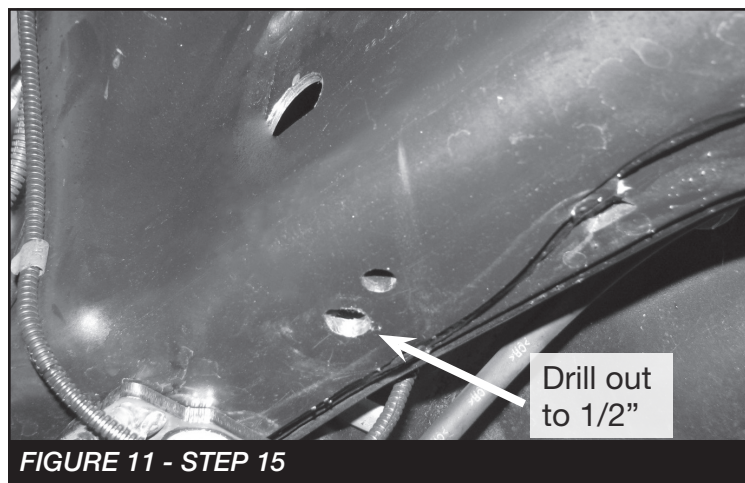

**FIGURE 8 - STEP 13**
13. Install FT30654 (Bump Stop Extension) onto the factory cup using the supplied 1/2" x 1-1/4" hardware and set aside. Torque to 127 ft-lbs. **SEE FIGURE 8**